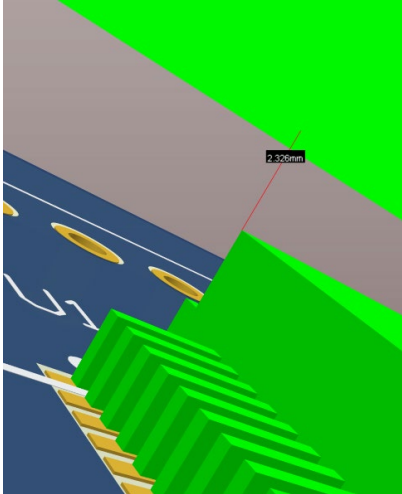

Figure 6. DRC Violation indicated by LCD and FPGA highlighted in green
24. In the PCB, both the LCD display and the FPGA will be highlighted in the DRC violation color as illustrated in Figure 6.